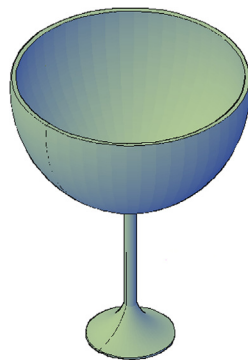

FIGURE 26.16
Step 5. Key in any value or press Enter for the full 360°. The result, shaded, is shown in Figure 26.16.